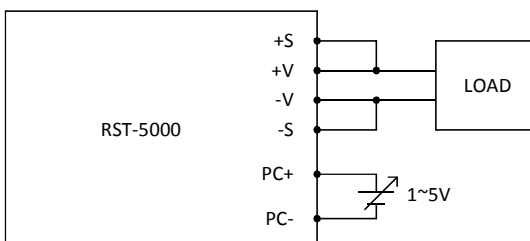

Fig 4.1
- Connect an external voltage source between PC+ and PC- on CN313 or CN314 as shown in Fig 4.1.